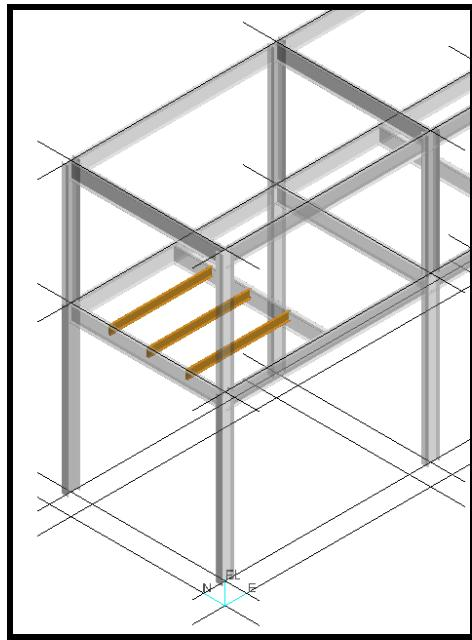

Figure 4 –Isometric View of the Structure U02
1. Select the Place Framing Members command. Use the view shown in Figure 4 to place the structural members